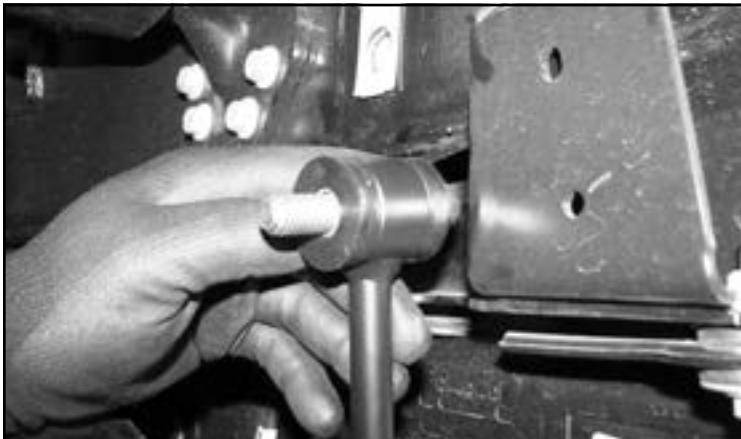
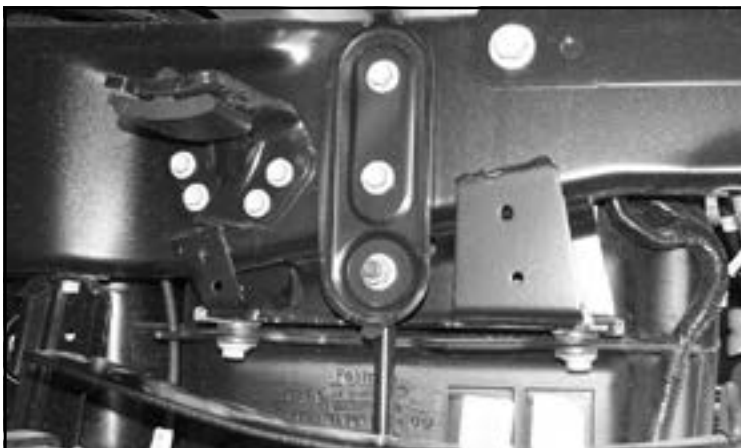

FIGURE 29 - STEP 37
FIGURE 30 - STEP 37
37. Install the FT1004 (Bushings) and FT50089 (Sleeves) into both FT30784 (End Links). Install the new end links to the factory brackets using the supplied 1/2" X 2-1/2" hardware. **NOTE: Install the bolt from the back side. SEE FIGURE 29** Install the brackets/Tie rods to the frame and sway bar using the factory hardware for the frame mount and the supplied 1/2 X 2-1/2" hardware at the sway bar location. Torque to 127 ft-lbs. **SEE FIGURE 30**